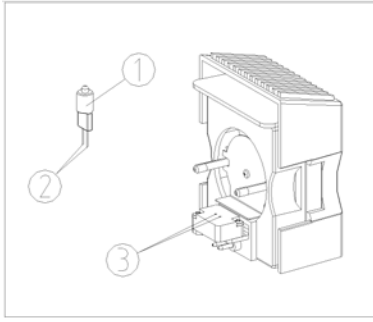

Fig. 3
Hold the bulb ① with clean cloth or tissue and insert the pins ② into the receptacle ③ fully. Make sure the bulb is vertical (See Fig. 3).